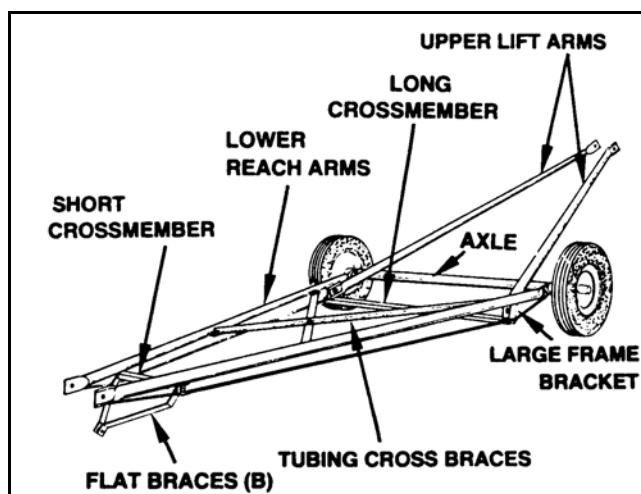

Figure 3.22
- b. Place undercarriage beneath the tube assembly, then position stabilizer braces (A) as shown in Figure 3.22 and attach lower reach arms to reach arm bracket welded on lower end of auger tube with two $\frac{3}{4}$ " x 2" bolts and locknuts. **Do not overtighten.** Tighten snug only; these bolts act as pivot points.